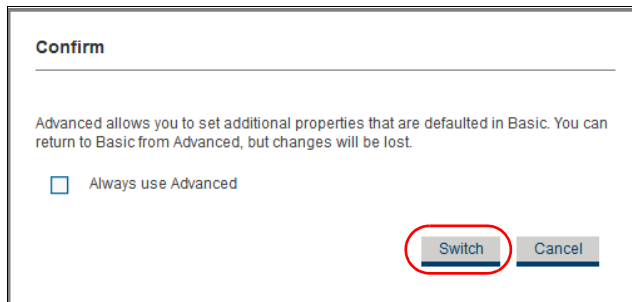

Figure 16-58 Advanced mode switch confirmation
2. Confirm by clicking **Switch**, as shown in Figure 16-58.